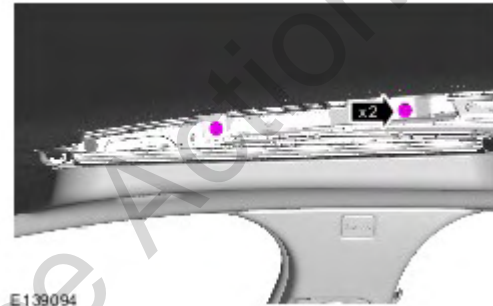

Figure 25
32. Adjust the roof opening panel glass. (Figure 25)